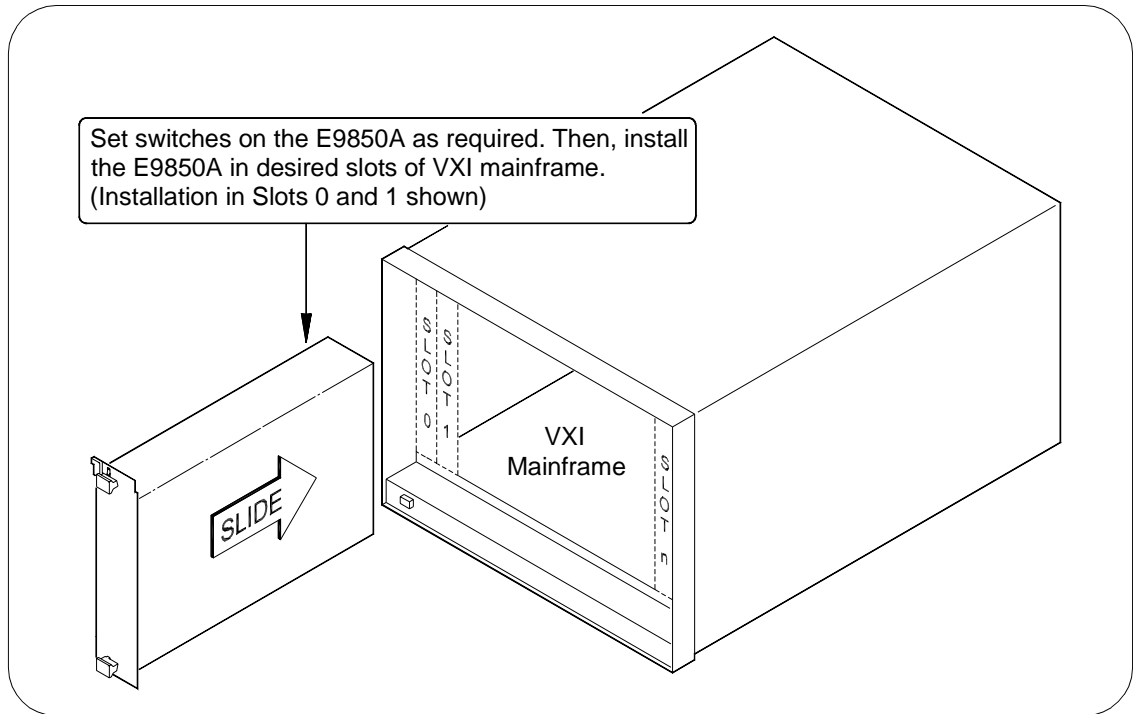

Figure 2-1. Installing the E9850A in the Mainframe
Step 3: Install the E9850A Install the E9850A into the two desired slots in the mainframe, as shown in Figure 2-1. Make sure the E9850A is fully inserted into the backplane.